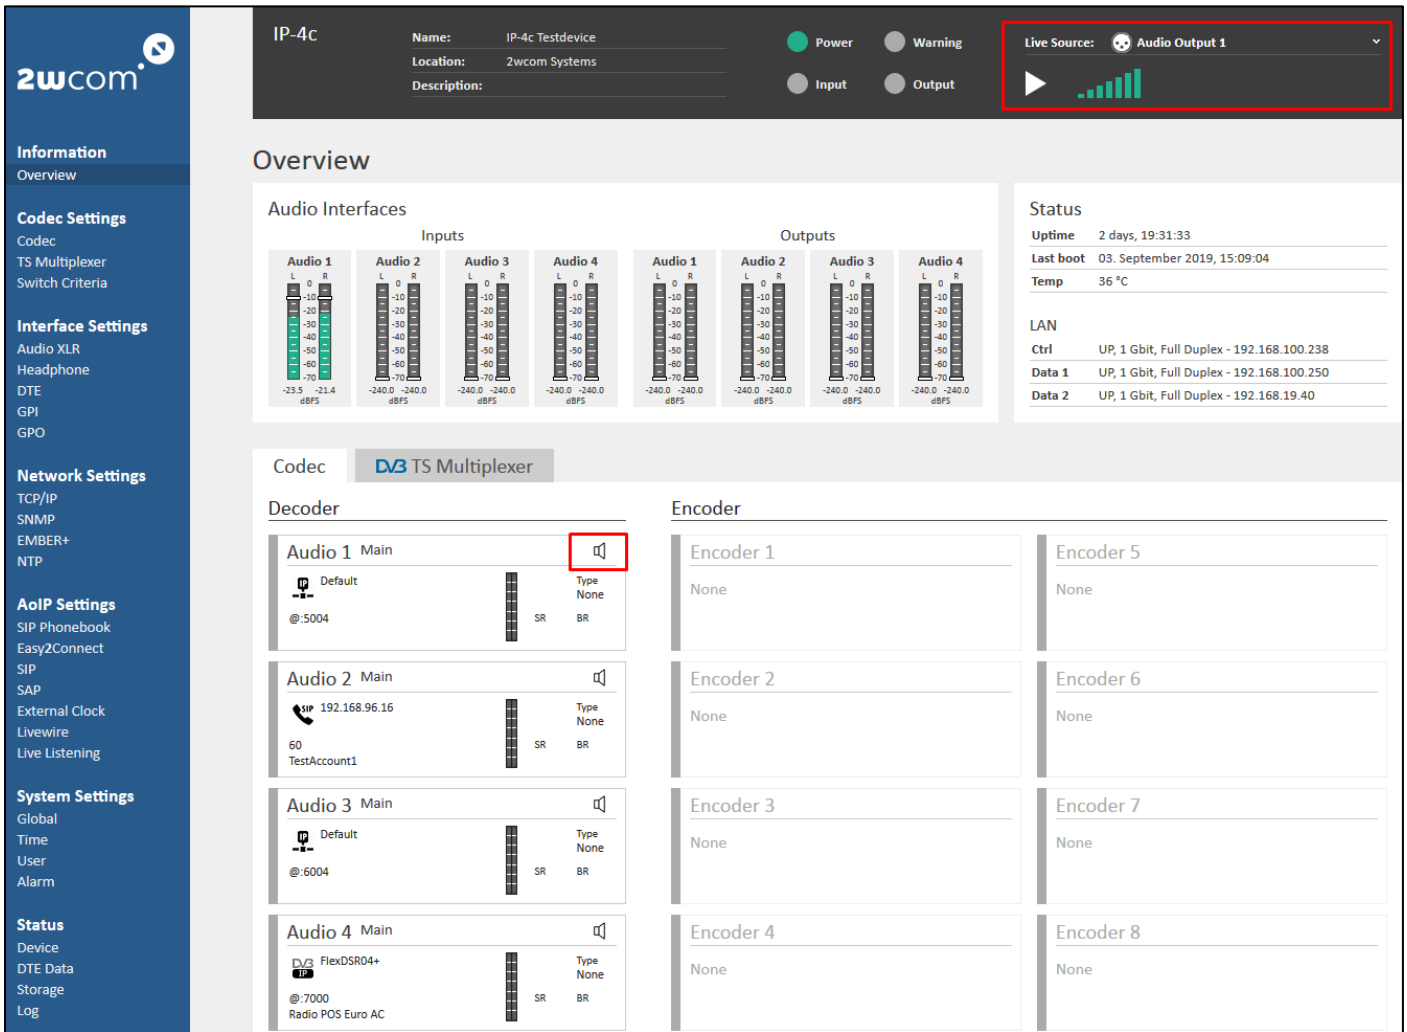

Figure 59: Live listening – internal media player
9. To start audio streaming, use the menu in the right top corner of the IP-4c web interface (see red frame in Figure 59):
- d) Alternatively, you can start/stop live streaming directly for each audio input individually by clicking the “Loudspeaker” icon in the corresponding source field (see red frame in Figure 59).